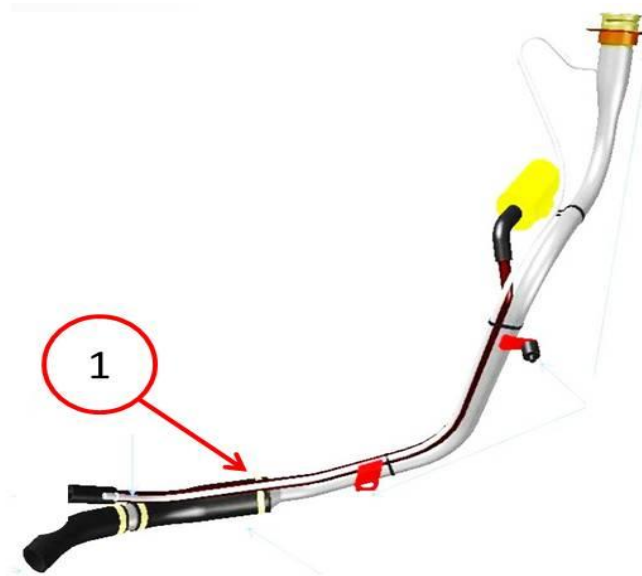

Fig. 1 Fuel Filler Tube
4. On new fuel filler tube verify and write down existing torque (Fig. 1).